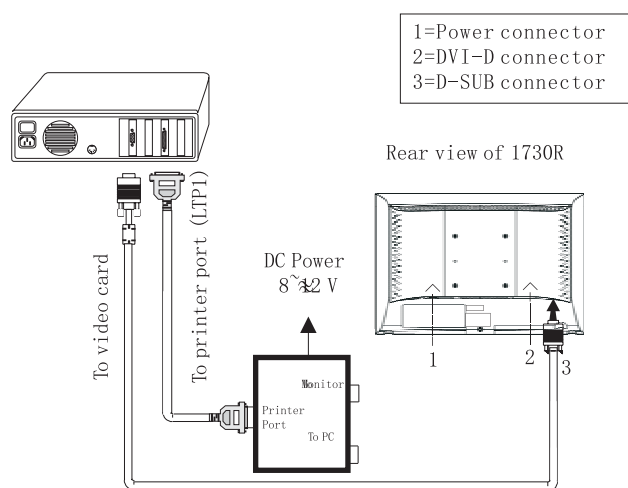

Fig.6
Step 2: Connecting printer cable and video cable of monitor as Fig. 6